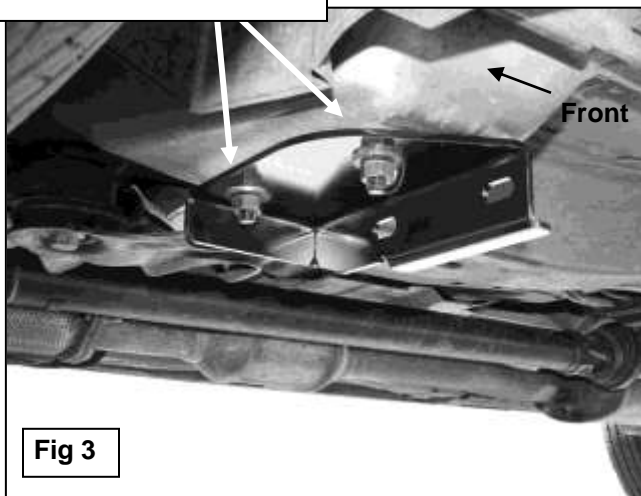

Fig 3
3. Select the driver side front inner Bracket, **(Figure 3)**. Bolt the inner Bracket to the (2) Bolt Plates with the included (2) 12mm Flat Washers, (2) 12mm Lock Washers and (2) 12mm Hex Nuts. Snug but do not tighten hardware at this time. **NOTE: Make sure that the welded-on washers are fully seated in the large openings in the floor at all times before tightening hardware.**